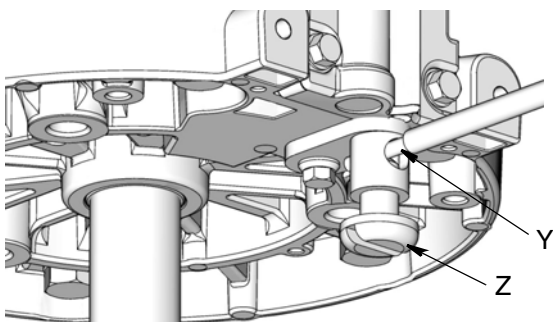

FIG. 2
**Pump:** use ground wire and clamp (as shown in FIG. 2). Connect the other end of the ground wire to a true earth ground.
1. Remove the ground screw (Z) and insert through eye of the ring terminal at end of ground wire (Y).
2. Fasten the ground screw (Z) back into the pump and tighten securely.